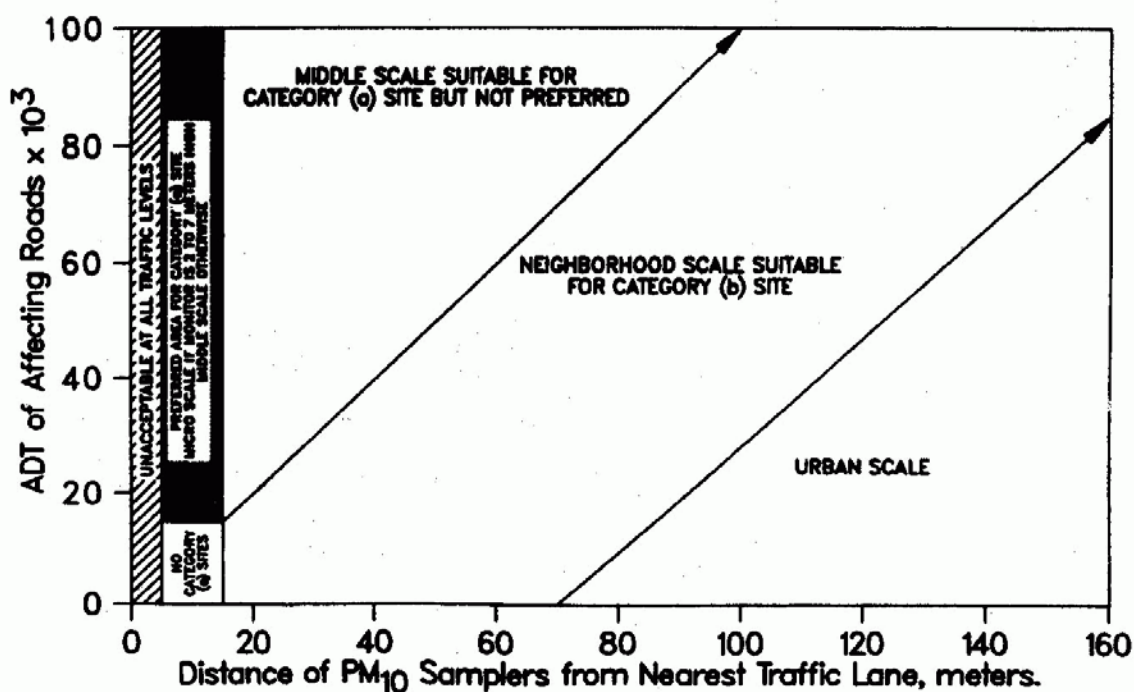

Figure 4-1 Acceptable areas for Micro, Middle, Neighborhood and urban samplers except for micro scale street canyon sites
4.1.3.2 Middle scale and Neighborhood scale: Figure 4.1 provides guidance on the recommended monitoring distances from the paved roads with different levels of average daily traffic.